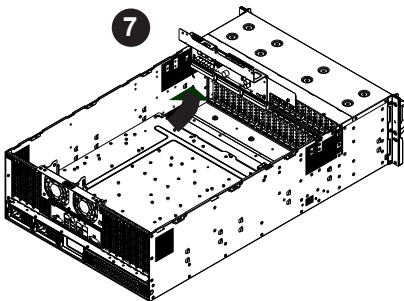

**Figure 4-25: Removing Screws Securing the Power Distributor Board Bracket**
10. Secure the power distributor board bracket by using the three screws previously set aside as shown in Figure 4-25.